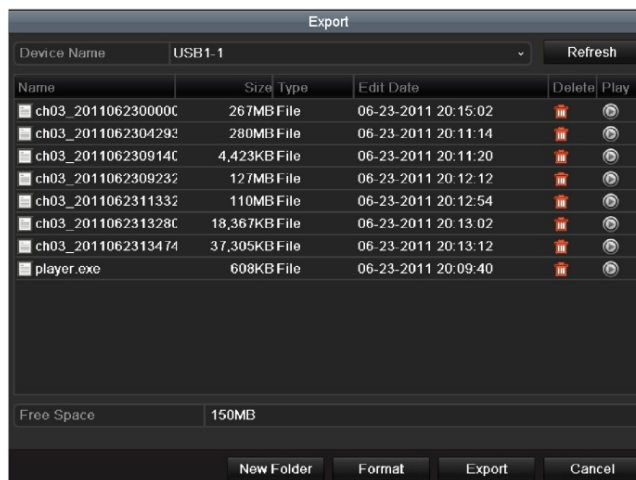

Figure 13. 5 Export Log Files
1. On the Search Result interface (Figure 13.8), click to select an item from the list and then click **Export** to enter the Export menu, as shown in Figure 13. 5.